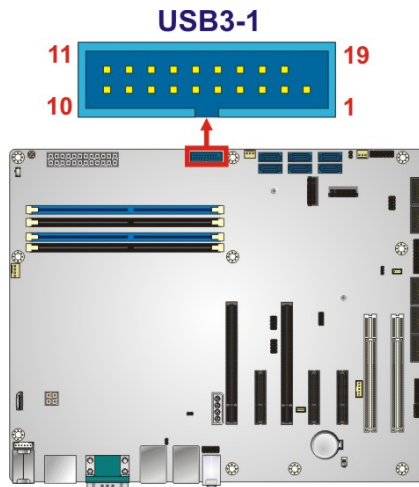

Figure 3-32: USB 3.2 Gen 1 Connector Location
- CN Location:** See **Figure 3-32**